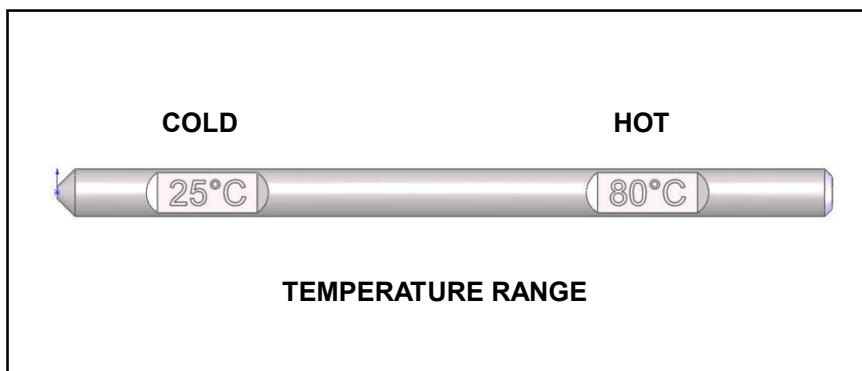

FIGURE 1
STEP 7. Carefully remove the dipstick and inspect the fluid level. The fluid should be in the 80°C (176°F) area for normal operating temperature (**See Figure 1**).
the 25°C (77°F) area on the dipstick (**See Figure 1**).